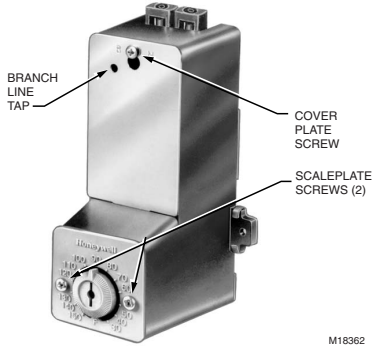

Fig. 9. Branch line tap location.
Verify device operation by checking the pressure at the branch line tap (BLP) located below and to the left of the cover holding screw. The BLP builds up and bleeds down through its full range as the setpoint knob is rotated. See Fig. 9.
- Remove the two scaleplate screws. See Fig. 9.
- Remove the cover plate by loosening one screw and sliding the cover so the keyhole clears the screw head. See Fig. 9.